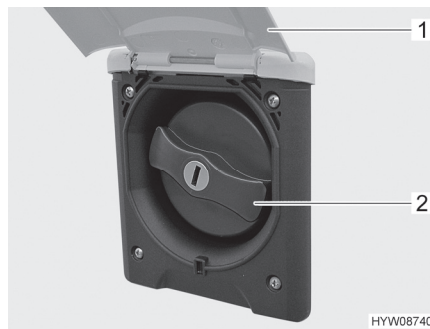

Fig. 192 Cap (drinking water filler neck)
- Swivel the external flap (Fig. 192,1) upwards.
- Turn the blue cap (Fig. 192,2) one quarter turn.